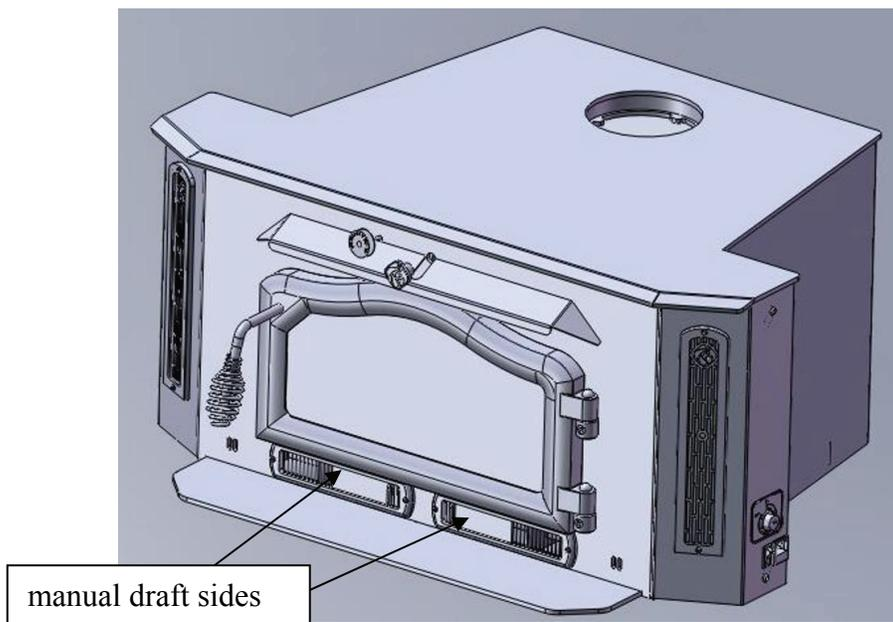

FIGURE 13: MODEL O2 MANUAL DRAFT CONTROL
- a. **Model O2 Manual Draft Control Slides:** Refer to FIGURE 13 for the location of the two manual draft control slides on these models.